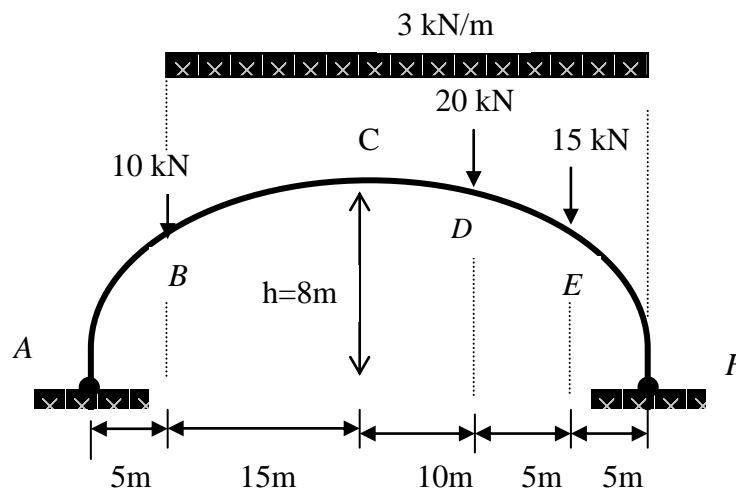

Figure 1
1. The two pinned parabolic arch shown in Figure 1 is designed to carry a uniformly distributed load of $w = 3 \text{ kN/m}$ along the span BCDEF. It is also designed to withstand point loads of 10kN, 20 kN and 15 kN at point B, D and E. Assume the shape of the arch is given by $y = \frac{4hx(L-x)}{L^2}$ and the horizontal thrust,